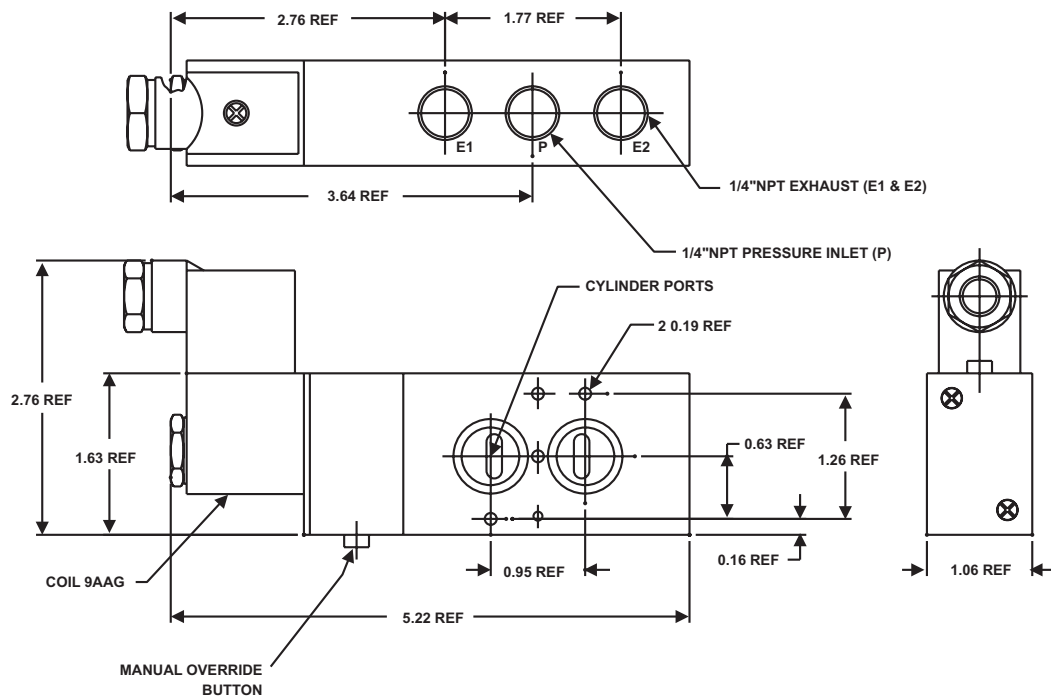

Figure 1. Pressure Solenoid
1. Connect the nitrogen pressure line into the middle 1/4-inch pressure port (P). (See Figure 1).